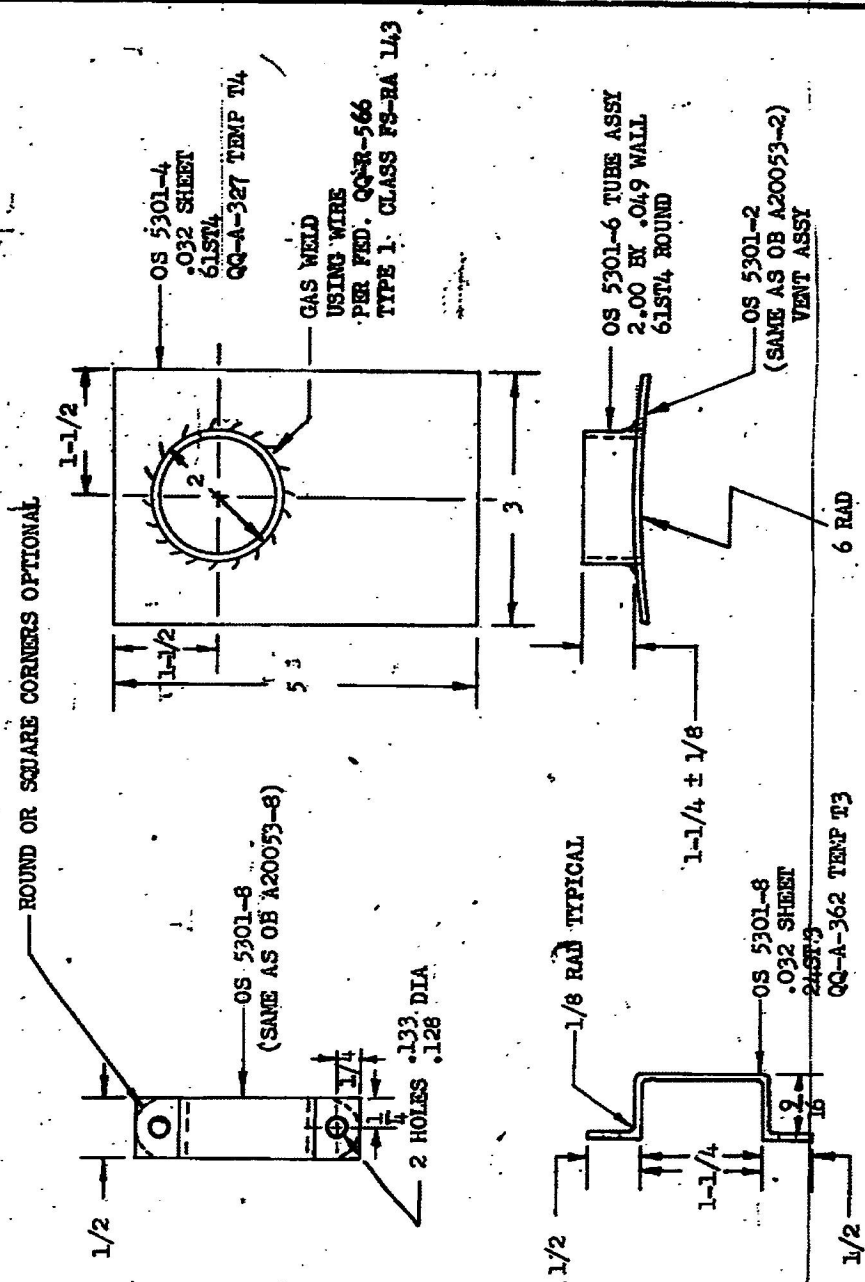

FIGURE 1
- (a) Tie down loops must be approximately as shown on Wickland Manufacturing Company Drawing 1608A. When missing or broken, fabricate and install OS 5301-8 loop as illustrated in Figure 1 of this specification.
- (b) Vent may be located 8 to 10 inches from the bottom of the toilet radial location as shown on Drawing 1608A. Cut out old vent tubes when relocation is necessary and install OS 5301-2 vent assembly illustrated in Figure 1 of this specification. Old vent hole is to be covered by OS 5301-2 vent assembly or by patching. Patches and OS 5301-2 vent assembly are to be attached with AN470AD4 rivets spaced 1/2-inch with 1/4-inch edge distance. Patches are to be fabricated from .032 61S-T4 aluminum alloy conforming to Specification QQ-A-327, Temper T4. Patches are to be square, 1 inch wider than the maximum dimension of the hole to be patched.